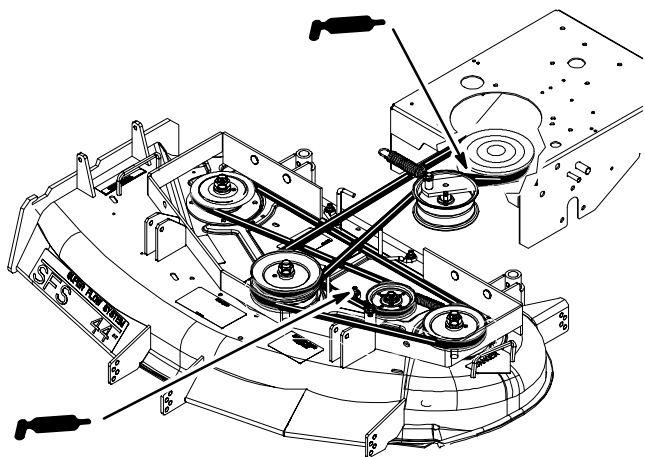

Figure 34
2. Grease the idler pulley pivots (Fig. 34).
3. Grease the idler pulley pivots (Fig. 34).